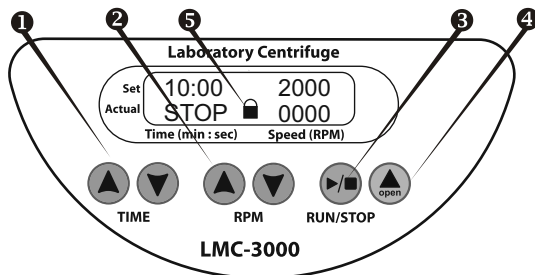

Fig.3 Control panel
4.4. Carefully close the lid (listen for the clicking sound of the lock) readings STOP and  (fig.3/5) in the lower line of the display indicate that the lid is closed.
4.5. With the “▲” and “▼” **TIME** buttons (fig. 3/①) set the required time interval (0-90 min, increment 1 min).
4.6. With the “▲” and “▼” **RPM** buttons (fig. 3/②) set the required speed (100-3000 RPM, increment 100 RPM). Note that the speed can also be adjusted during operation.
- 4.7. Press **RUN/STOP** button (fig. 3/⑤) to start centrifugation. Blinking indication RUN and current speed is displayed in the lower line. The timer in the upper line starts countdown after the set speed is achieved (stable indication RUN).
- 4.8. Centrifugation is stopped automatically after the set time elapses while display shows blinking indication STOP. A sound signal is emitted after full stop of the rotor (press **RUN/STOP** button (fig.3/⑤) to stop the signal).
- 4.10. Press the button **Open** (fig.3/④) and open the lid lifting it upwards with a hand (it is possible to open the lid only when the rotor is stopped). Display shows OPEN.